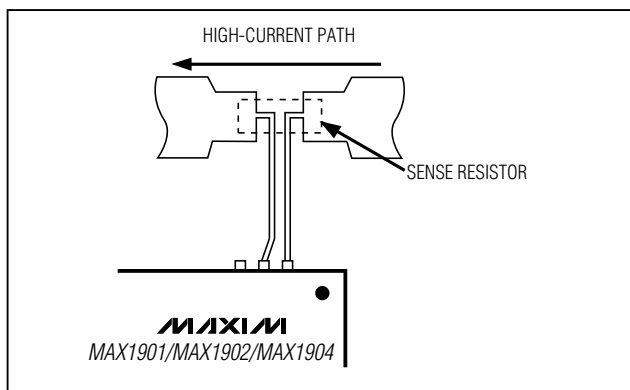

Figure 9. Kelvin Connections for the Current-Sense Resistors
- Priority 1: Minimize current-sense resistor trace lengths and ensure accurate current sensing with Kelvin connections (Figure 9).